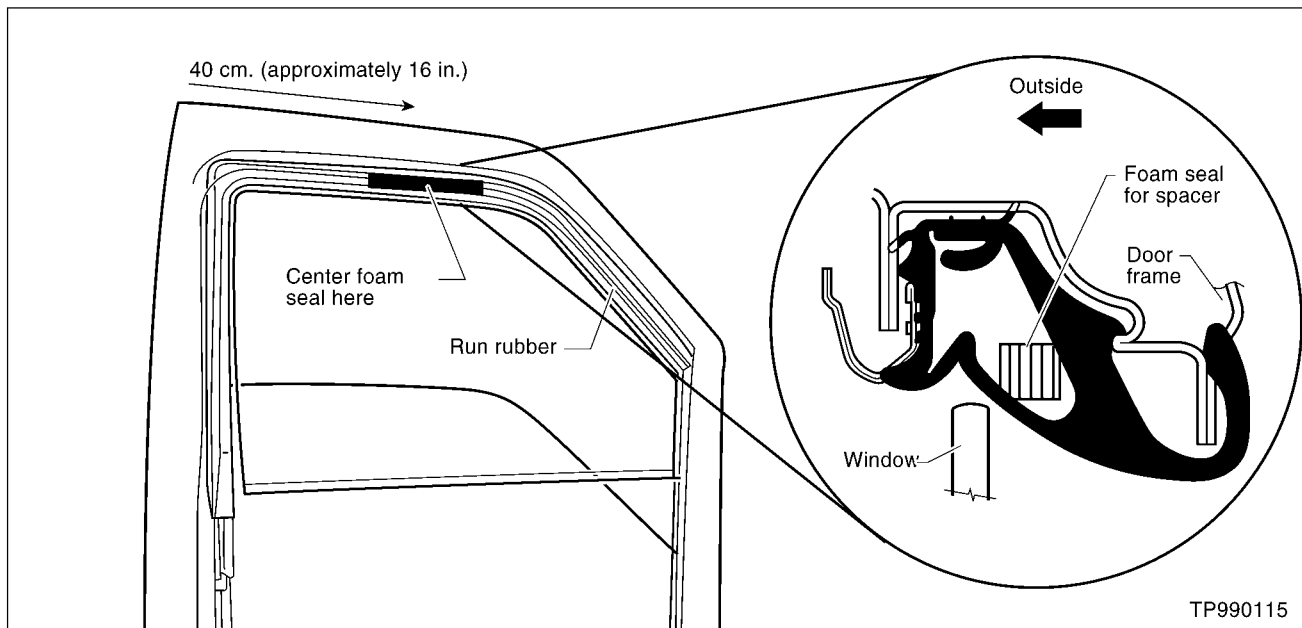

Figure 7. Run Rubber and Placement of Foam Seal
2. Cut a piece of foam seal (3M Scotchfoam P/N 051131-06370 Tape No. 4504 or equivalent ), 20 cm long (approximately 8 inches) and 7 mm wide (approximately one-quarter inch wide). Attach this strip along the interior side of the run rubber (as shown in Figure 7). This will increase the contact pressure between the window and the exterior side of the run rubber.